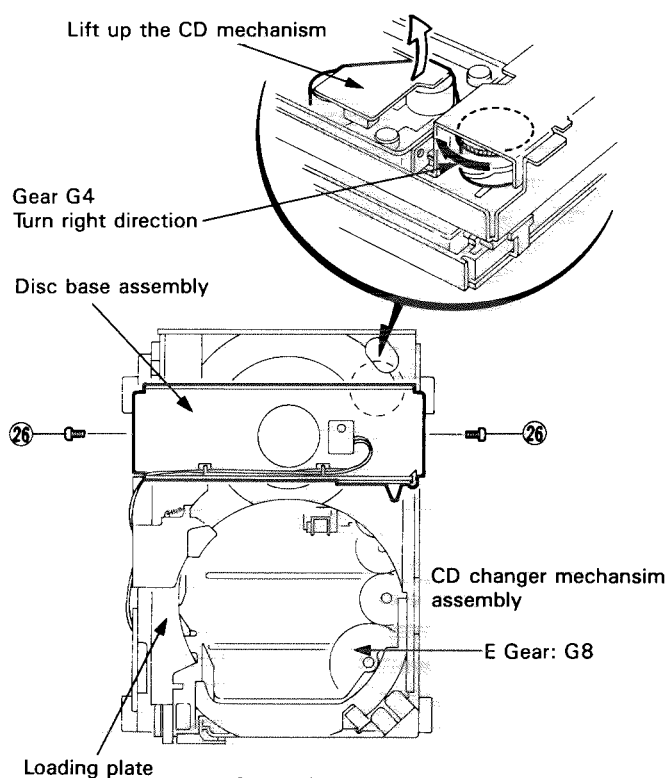
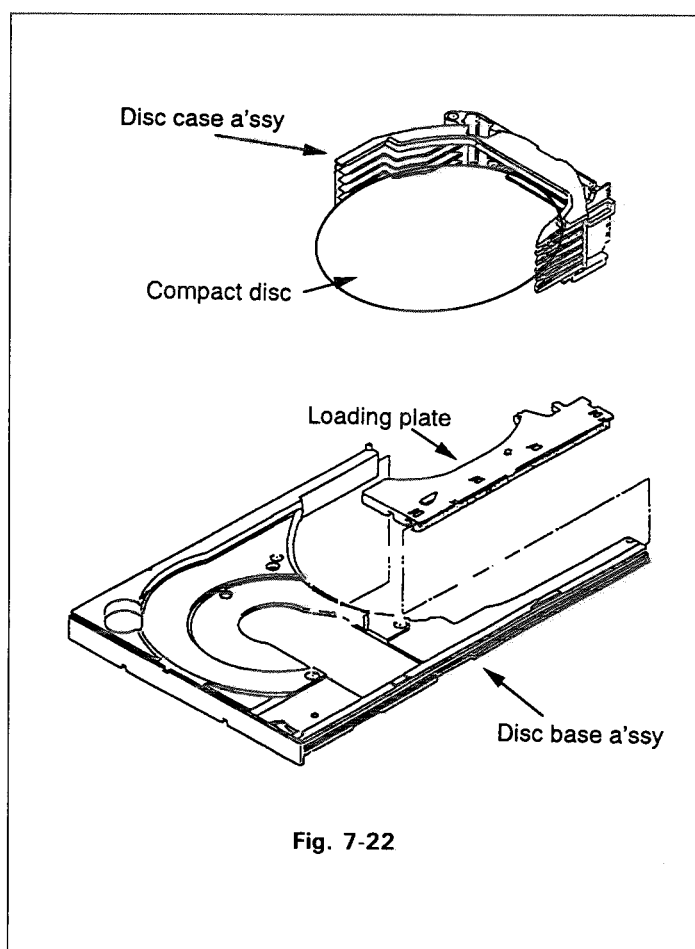

Fig. 7-21
Fig. 7-22
■ **Method of removing the clamber base assembly (Refer to Fig. 7-21)**
6. From the CD changer mechanism assembly, remove the two screws (26) retaining the clamber base assembly.
- 2-1. Method of ejecting the compact disc on the disc base ass'y (Refer to Fig. 7-21).
- (1) Turn the gear G4 clockwise and lower the CD mechanism.
- (2) When the loading plate is located at the rearmost position, move the plate to the front panel side (At this time, the compact disc will be set on the disc base ass'y by the loading plate).
- (3) By moving the disc base ass'y to the front panel side, take out the compact disc.
- 2-2. Method of ejecting the compact disc left on the disc case ass'y (Refer to Fig. 7-22)
- (1) Move the loading plate to the rearmost position.
- (2) Turn the E gear G8 counterclockwise, and move up the disc case ass'y into which any compact disc has been loaded.
- (3) While turning the E gear G8, align the first compact disc (the lowermost compact disc on the disc case ass'y) to its loading position to the loading plate.
- (4) After the loading plate onto which the first compact disc is loaded has been moved to the front panel side, pull out the disc base ass'y from the front panel side and take out the compact disc.
- (5) Eject the second through sixth compact discs as well similarly according to the procedures in Items 1 through 4. Whenever the second and subsequent discs are to be ejected, however, align the compact disc to be ejected to the height of the loading plate.